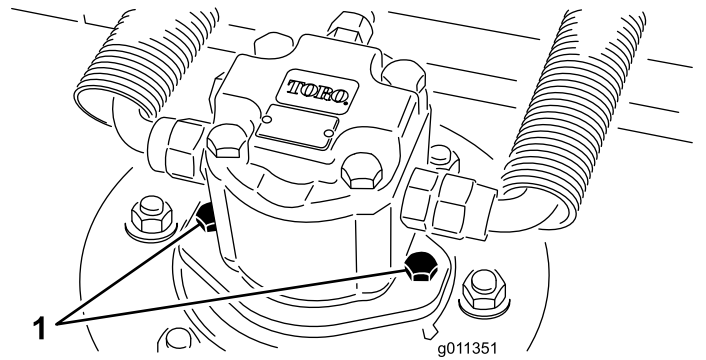

Figure 86
2. Disconnect and remove the hydraulic motor from the cutting unit (Figure 86). Cover the top of the spindle to prevent contamination.
3. Install the hydraulic motor to the cutting unit (Figure 86). Make sure that the O-ring is in position and not damaged.